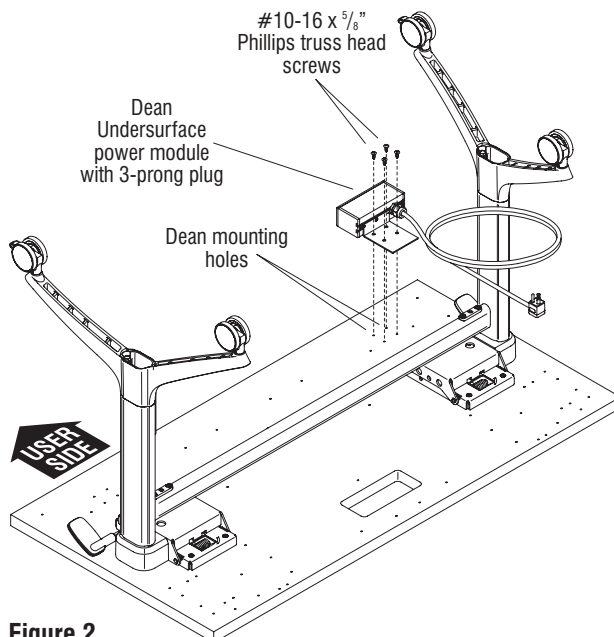

Figure 2
1. Align the mounting holes of the Dean undersurface power module with one of the three sets of Dean pre-drilled mounting hole locations underneath the front, user side of the tabletop (Figure 2 and Detail F). Secure the Dean power module to the tabletop using two #10-12 x 3/4" Phillips pan head screws (Figure 2 & Details F & G).